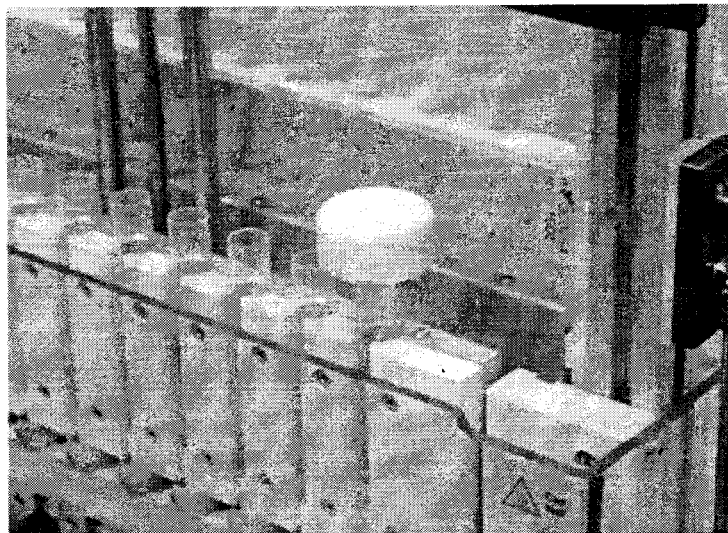

Figure 8. Aligning the Reaction Vessel Insertion Tool with the RV
2. Place the Reaction Vessel Insertion Tool on top of the RV as shown in **Figure 8**.